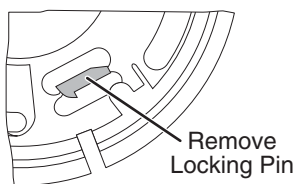

FIGURE 7
To make the smoke alarm somewhat tamper resistant, a locking pin has been provided in the mounting bracket of the unit. It will help deter individuals from removing the smoke alarm from the bracket. See Figure 7. This can be installed by following the directions below.
1. Remove the break-away locking pin from the mounting bracket of the unit by rocking pin back and forth. See Figure 7.